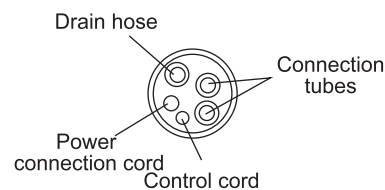

Figure 5
2. After wrapping the connection tubes and wire, put them through the wall piping hole (Figure 5).